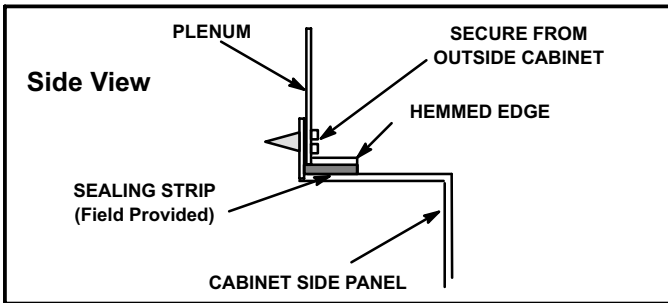

FIGURE 13
- 1 - Bottom edge of plenum should be flanged with a hemmed edge (See figure 13).